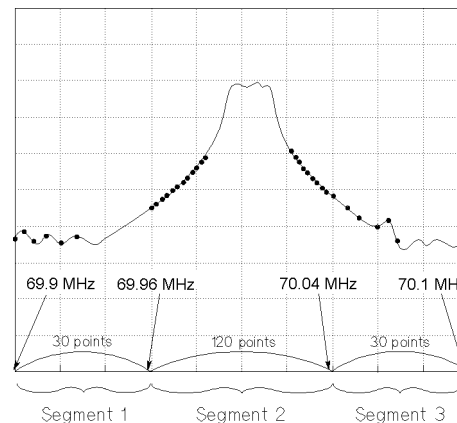

Figure 9-1. Reducing Sweep Time by Optimizing the Number of Display Points
- Differentiate the sweep range of interest from other sweep ranges in terms of the number of points (Figure 9-1).